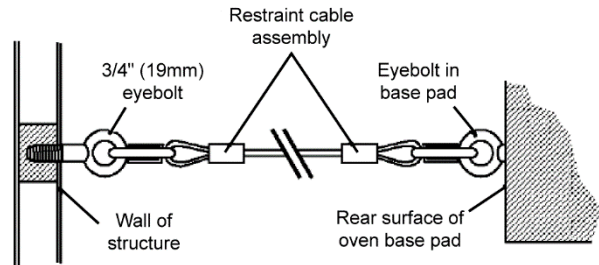

Figure 23. Installing the Restraint Cable
- d. Replace the belt on the conveyor frame. Check that the conveyor belt links are oriented as shown in Figure 23, and that the smooth side of the conveyor belt faces UP.
- e. Connect the inside master links. Check that the links are oriented as shown in Figure 23.
- f. Connect the outside master links. Note that the outside master links each have an open hook on one side. This hook aligns with the hooks along the sides of the other conveyor links. See Figure 23.